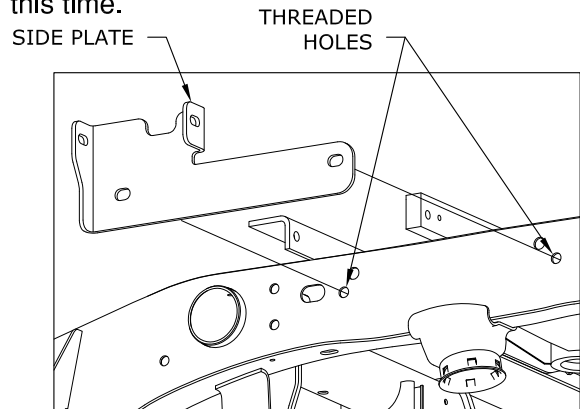
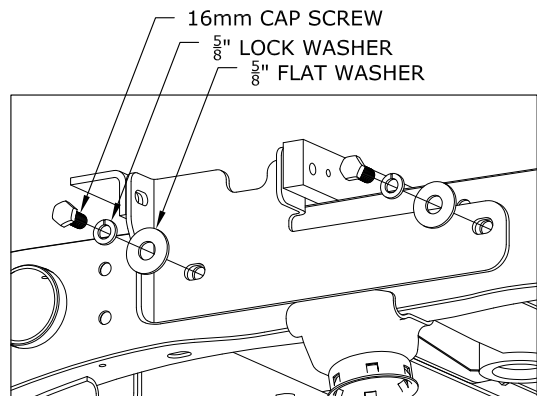
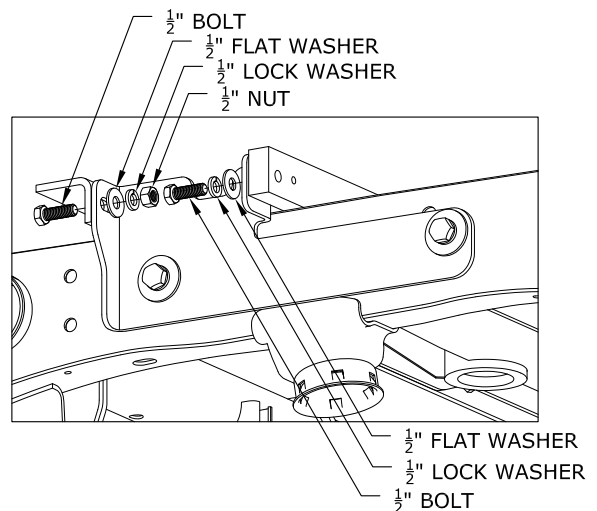

Figure C1: View from outside of Driver Side Frame
Figure C2: View from outside of Driver Side Frame
Figure C3: View from outside of Driver Side Frame
1. **Install the side plates.** Place each side plate against the frame so that the flanges are between the front and rear cross member, see Figure C1. Attach each side plate to the frame with two 16mm cap screws,  $\frac{5}{8}$ " lock washers and  $\frac{5}{8}$ " flat washers. The 16mm cap screws will screw into pre-existing threaded holes in the frame, see Figure C2. Attach the side plate to the front and rear cross members with  $\frac{1}{2}$ " Bolts, flat washers, lock washers and nuts, as shown in Figure C3. Do not fully tighten the side plate hardware at this time.